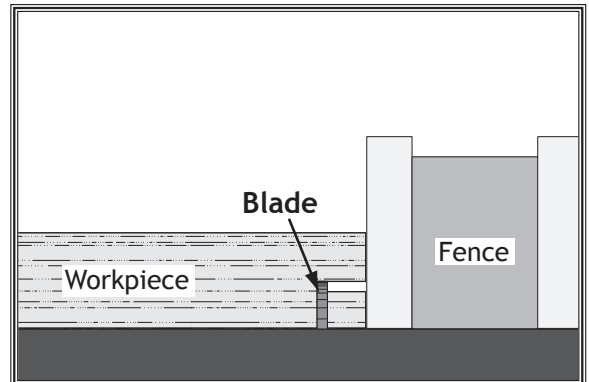

Figure 67. Rabbet cutting with a standard blade.
7. Lay the workpiece flat on the table, adjust the saw blade height to intersect with the first cut, as shown in **Figure 67**, then perform the second cut to complete the rabbet.